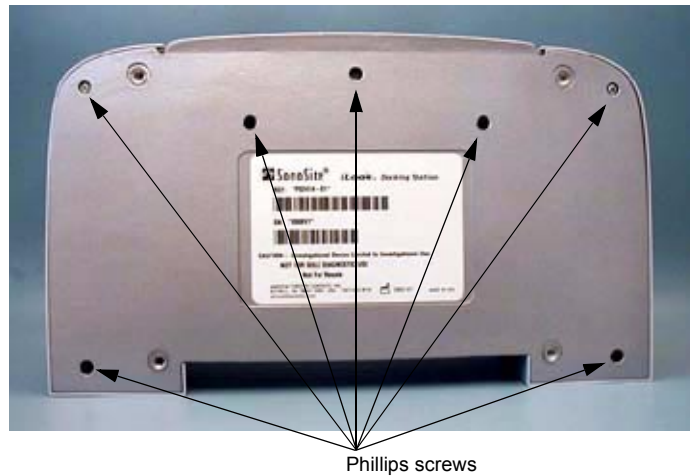

Figure 7.10 Docking Station Screws
- 2 Remove the seven (7) Phillips head screws identified in Figure 7.10.